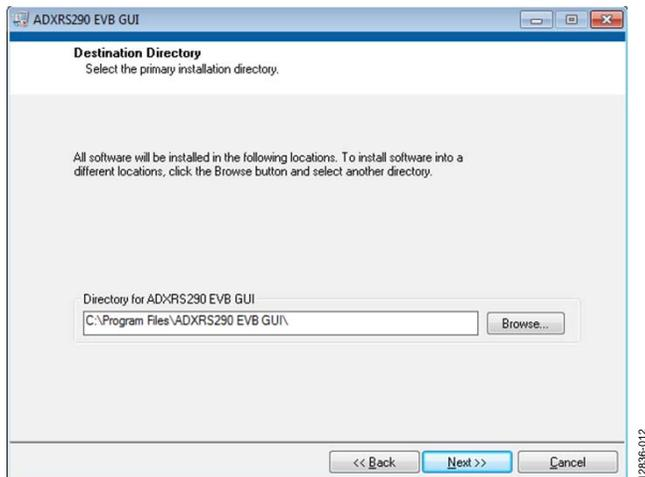

Figure 11. Destination Directory Selection
1. Choose the destination directory. The installer auto populates the names of the directories in which to store the software GUI and required National Instruments products (see Figure 11). You can change these directories; however, most installations can proceed with the default values.